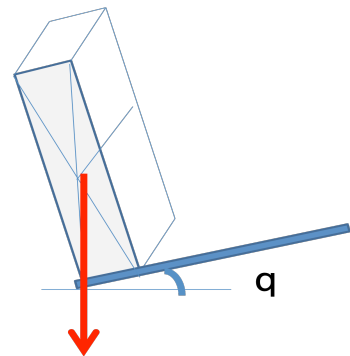

Figure. 4
4. Now arrange the block and the cardboard as in figure 4.